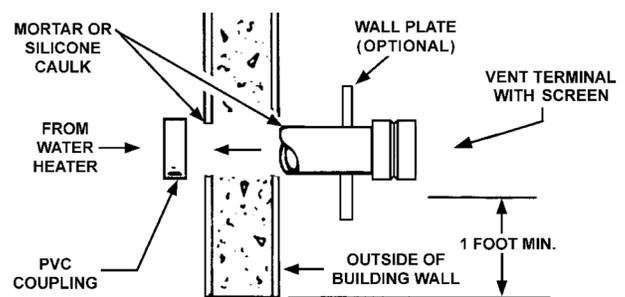
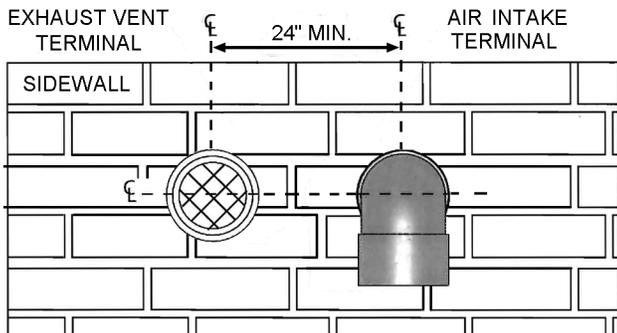
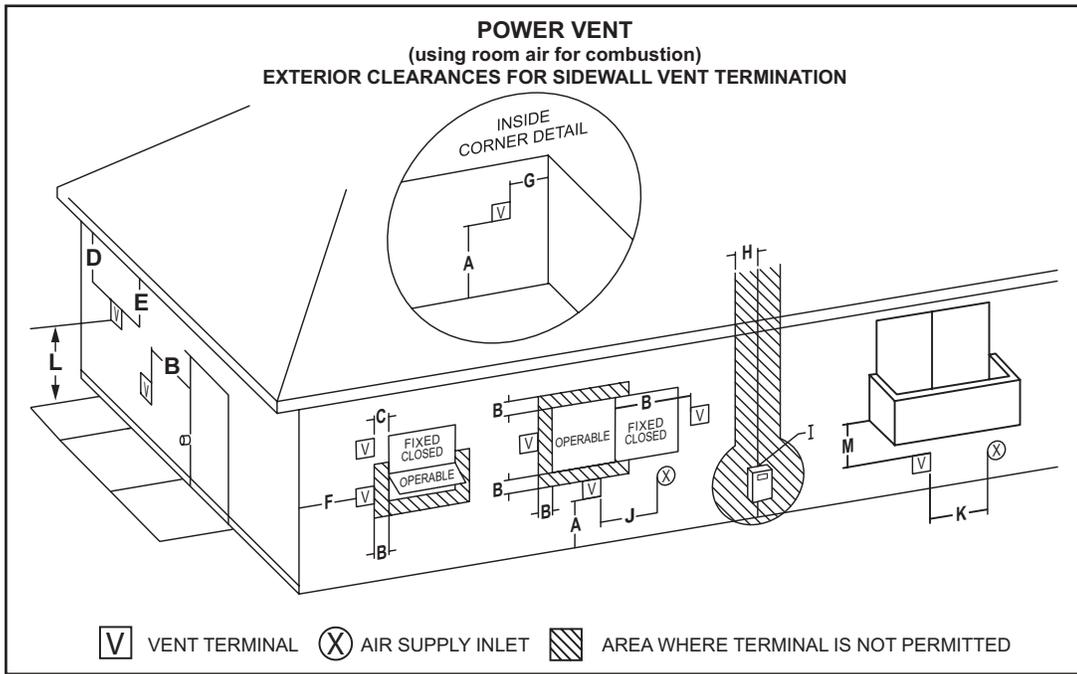
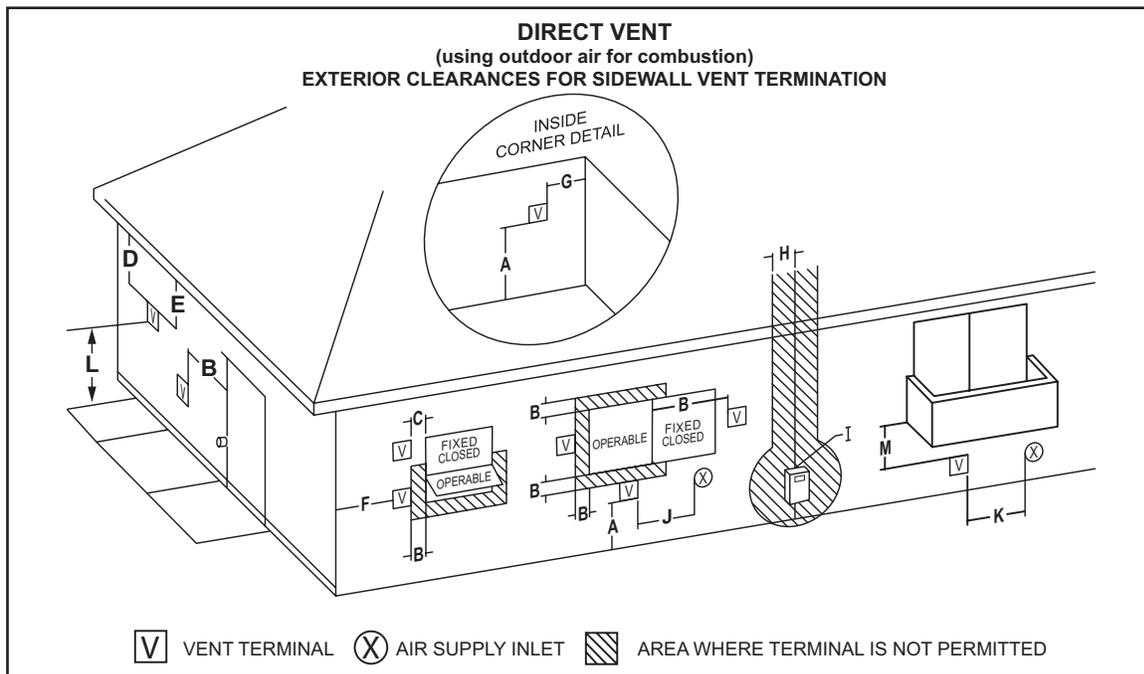

Figure 12: VENT TERMINATION
Figure: 13A
Figure: 15
Figure: 16
2. Through-the-Wall Termination - horizontal vent termination directly through an outside wall, see "Figure 12: VENT TERMINATION" on Page 27.
Direct venting into dead spaces such as alleys, atriums, and inside corners can cause recirculation of flue gases. Recirculation of flue gases will cause sooting, and icing of the combustion air intake during severe cold weather. To prevent the recirculation of flue gases, maintain as much distance as possible between the combustion air intake and the exhaust vent terminal refer to "Figure: 15" and "Figure: 16" on Page 29 & Page 30 respectively.
The first step is to determine where the vent pipe will terminate. See Figures 12, “Figure: 13A”, and “Figure: 14”. The vent may terminate through a sidewall as shown in Figure 12 and “Figure: 14” or through the roof as shown in “Figure: 15” and “Figure: 16”.
The vent system must terminate so that proper clearances are maintained as cited in local codes or the current edition of the National Fuel Gas Code, (ANSI Z223.1, 12.9.1 through 12.9.4) or the Natural Gas and Propane Installation Code (CAN/CSA-B149.1). See “Figure: 15” and “Figure: 16”.
Instructions on proper installation through a sidewall are provided in Figures 12, “Figure: 13A”, and “Figure: 14”.
Cut a length of pipe about 3.5 inches (8.9 cm) longer than the wall thickness at the opening. Glue the vent terminal to this section of pipe. Slide the wall plate over the pipe to stop against the vent terminal. Place a bead of caulking (not supplied) around the gap between the pipe and cover plate. Apply enough to fill some of the gap between the pipe and wall. Place some of the caulking on the back of the plate to hold it against the wall after installation. If the vent pipe is installed up to the wall, with a coupling on the end against the wall opening, the pipe with the vent terminal can be prepared for gluing before inserting through the wall. Slide the pipe through the wall and insert into the coupling on the other side of the wall, making sure that the vent terminal ends up pointed in the correct position, see Figure 12.
6. If the air intake pipe is installed up to the wall, with a coupling on the end against the wall opening, the pipe with the air intake terminal can be prepared for gluing before inserting through the wall. Slide the pipe through the wall and insert into coupling on the other side of the wall, making sure that the air intake terminal ends up pointed in the correct position (Figure 13A and Figure 14).